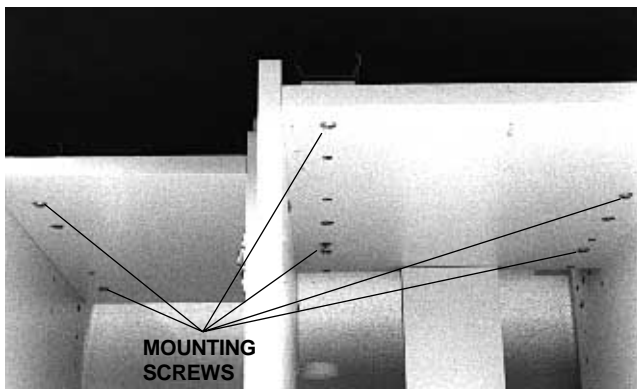

FIGURE 22
4. **Loosely** fasten the countertop to the lower module using the six 10-32 x 7/8" (22.2 mm) Phillips head screws from the kit. Four screws are installed, up into the slides, in the small lower module. Two screws are installed in the nitrous oxide module (see Figure 22).